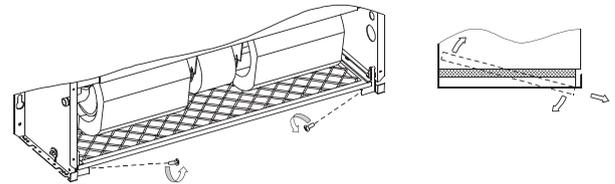

Fig. 5-9
- 1) Upright row (non-directional) one side of the inhalation grating, and putdown the other side, and then slide follow the arrow's direction refers to Fig. 5-9.